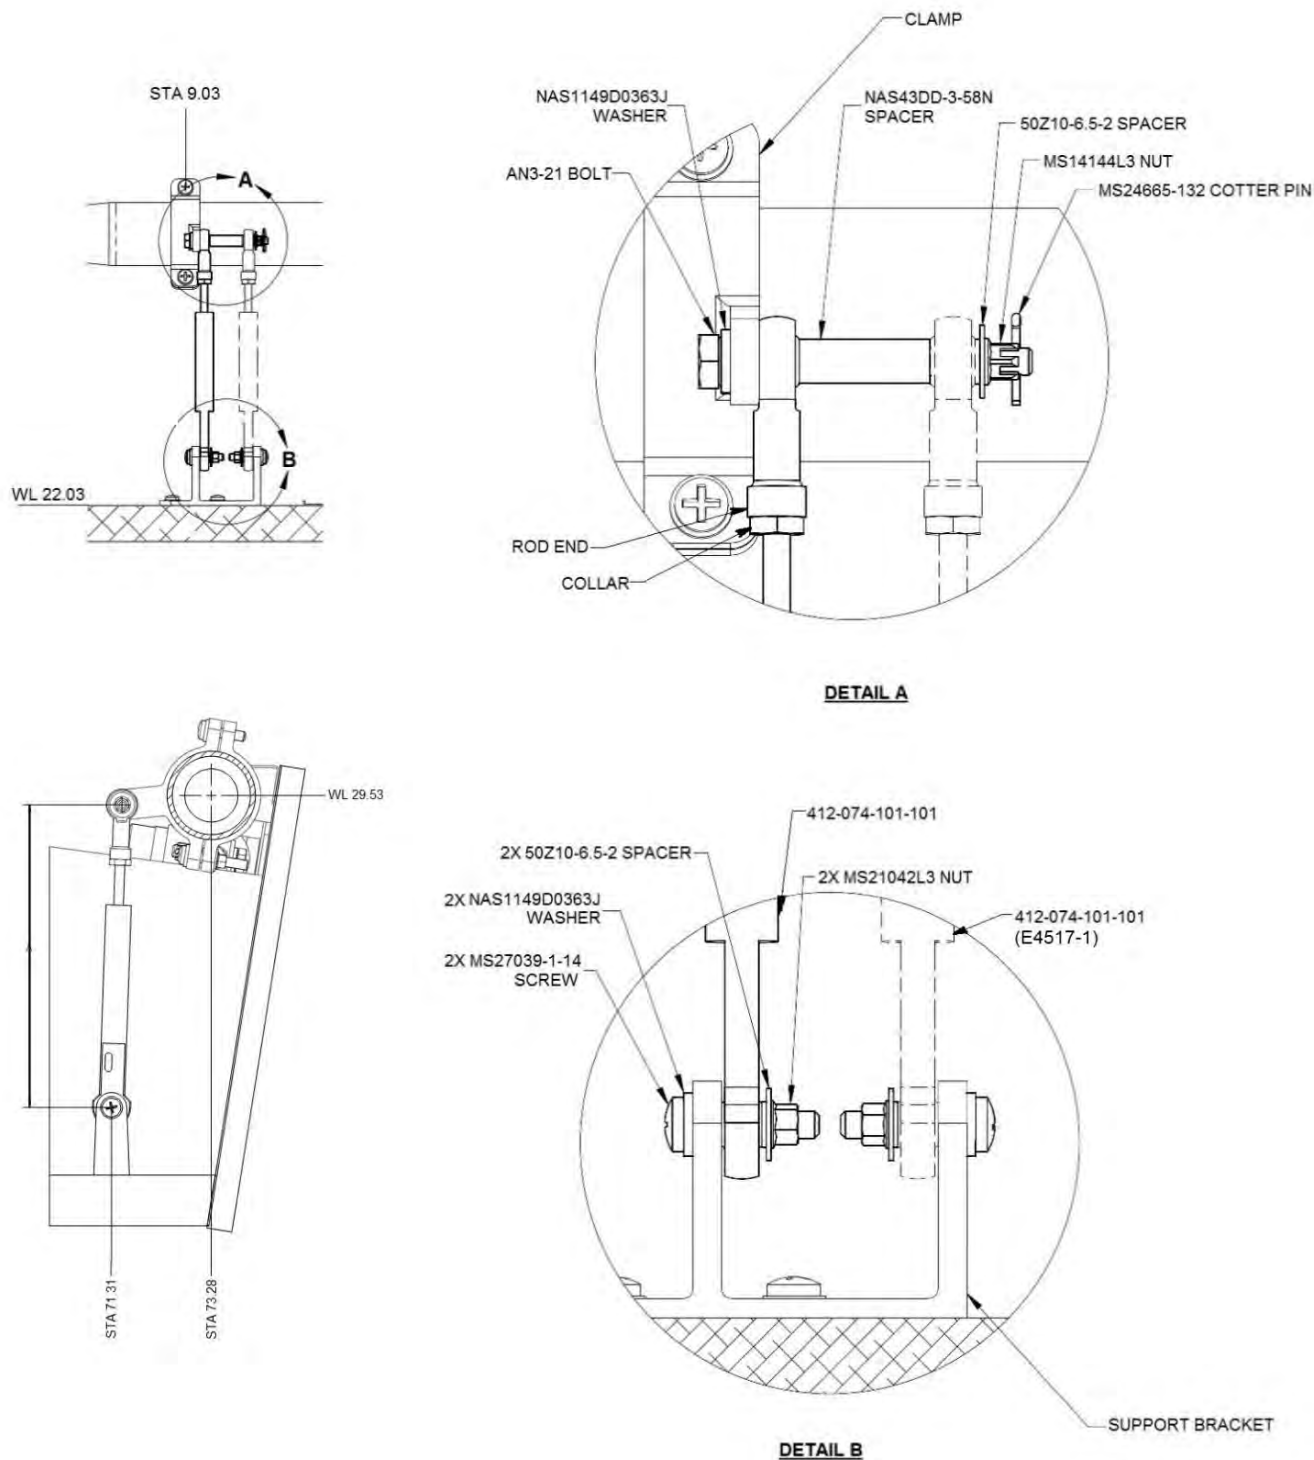

Figure 76-15: Collective Pitch Transducer Installation and Rigging
13. Install bolt (head must point inboard when installed), washers and transducer, on inboard side of the support bracket and the clamp assembly. See Figure 76-15